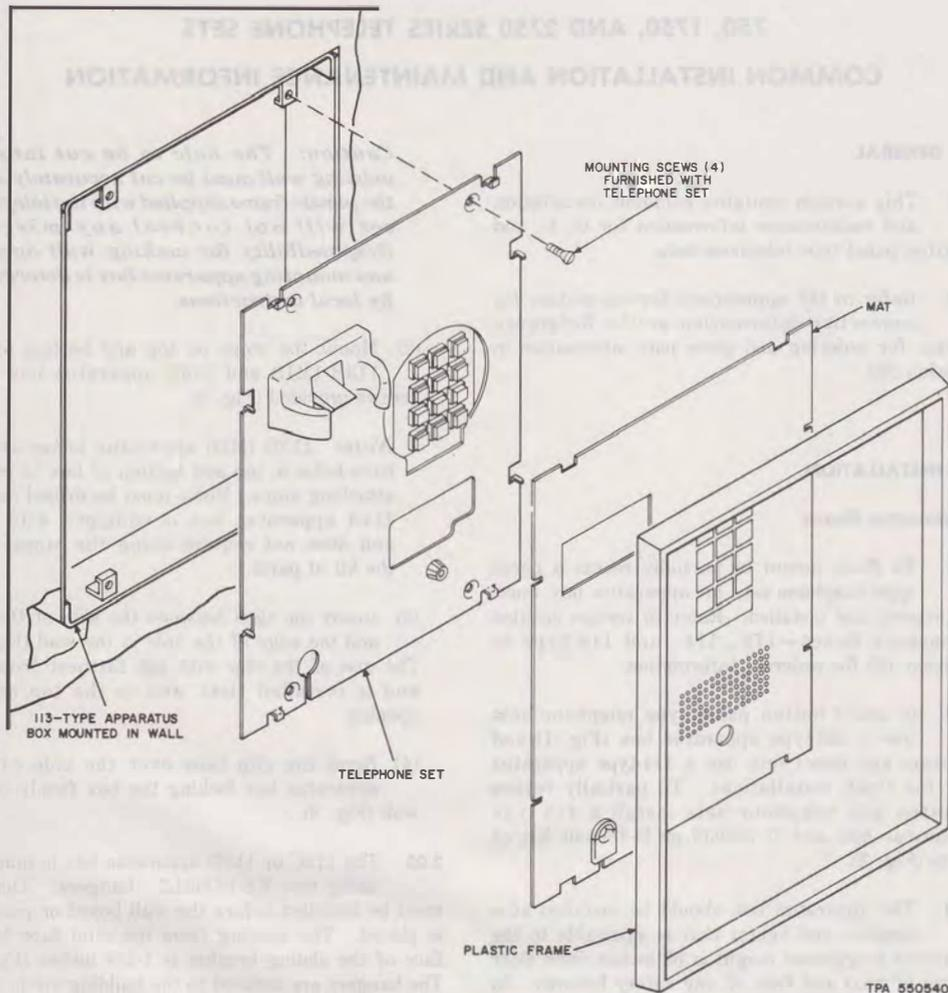
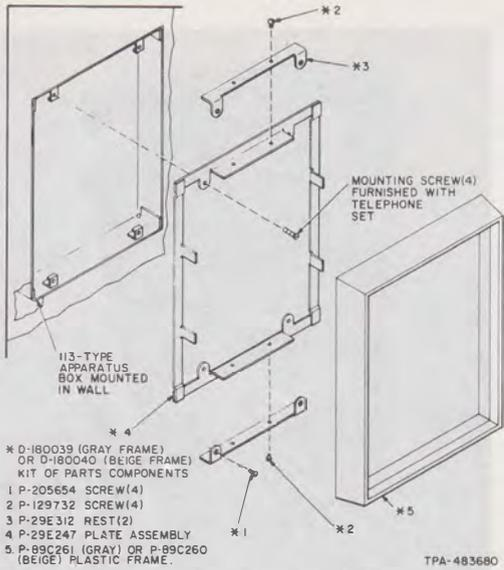

Fig. 1—Typical Installation of Panel Type Telephone Set (Recess Mounting)
Fig. 2—Installation of D-180039 or D-180040 Kit of Parts
2.02 0- and 1-button panel type telephone sets use a 113-type apparatus box (Fig. 1) and 6-button key panel sets use a 114-type apparatus box for flush installations. To partially recess 6-button key telephone sets install a 113-type apparatus box and D-180039 or D-180040 Kit of Parts (Fig. 2).
- (2) Secure mounting cord stayhook and terminate inside wire or cable and mounting cord in accordance with appropriate Service section. (Mounting cord is not required for key telephone sets using a A25B connector cable.)
- (3) Remove plastic mat retainer frame and mat from telephone set.
- (4) Position panel on lower edge of apparatus box with top tilted outward. Connect mounting cord or connector cable to the jack or plug on the telephone set panel. Dress mounting cord or connector cable to avoid interference with set components. Align panel of set with mounting brackets on box and secure with four mounting screws furnished with set (Fig. 1 and 10).